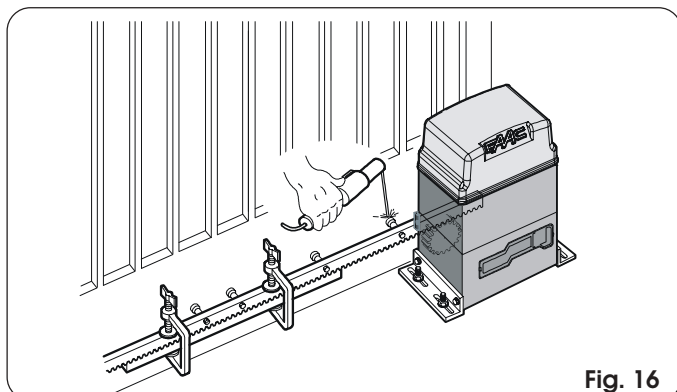

Fig. 16
- 5) Bring another rack element near to the previous one, using a piece of rack (as shown in figure 16) to synchronise the teeth of the two elements.
- 4) Bring another rack element near to the previous one, using a piece of rack (as shown in figure 16) to synchronise the teeth of the two elements.